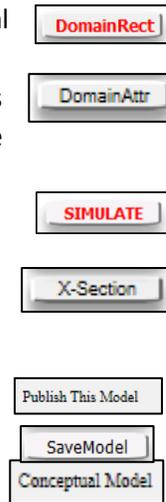

Figure B1: Regional model domain for location of interest: greater area of Sydney, Australia.
- Step 1 – delineate the regional model domain (Figure B1).